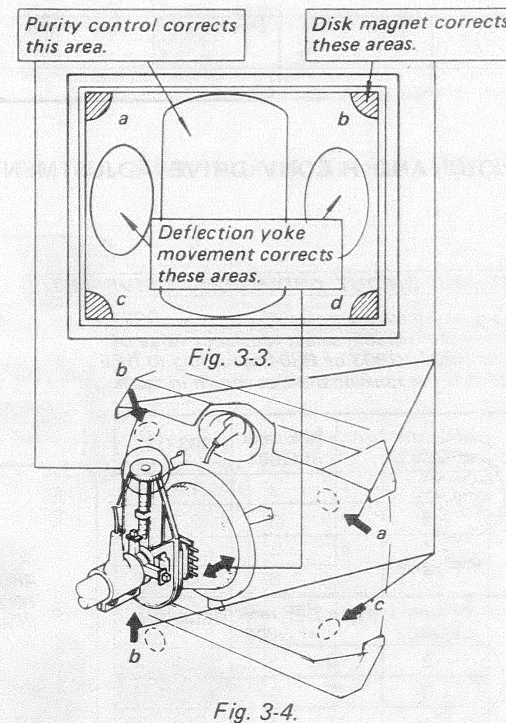
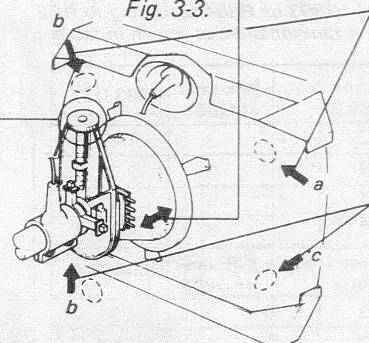

Fig. 3-3.
Fig. 3-4.
10. Check if mislanding appears at corners a ~ d as shown in Fig. 3-3. If mislanding is observed, correct it as shown in Fig. 3-4.